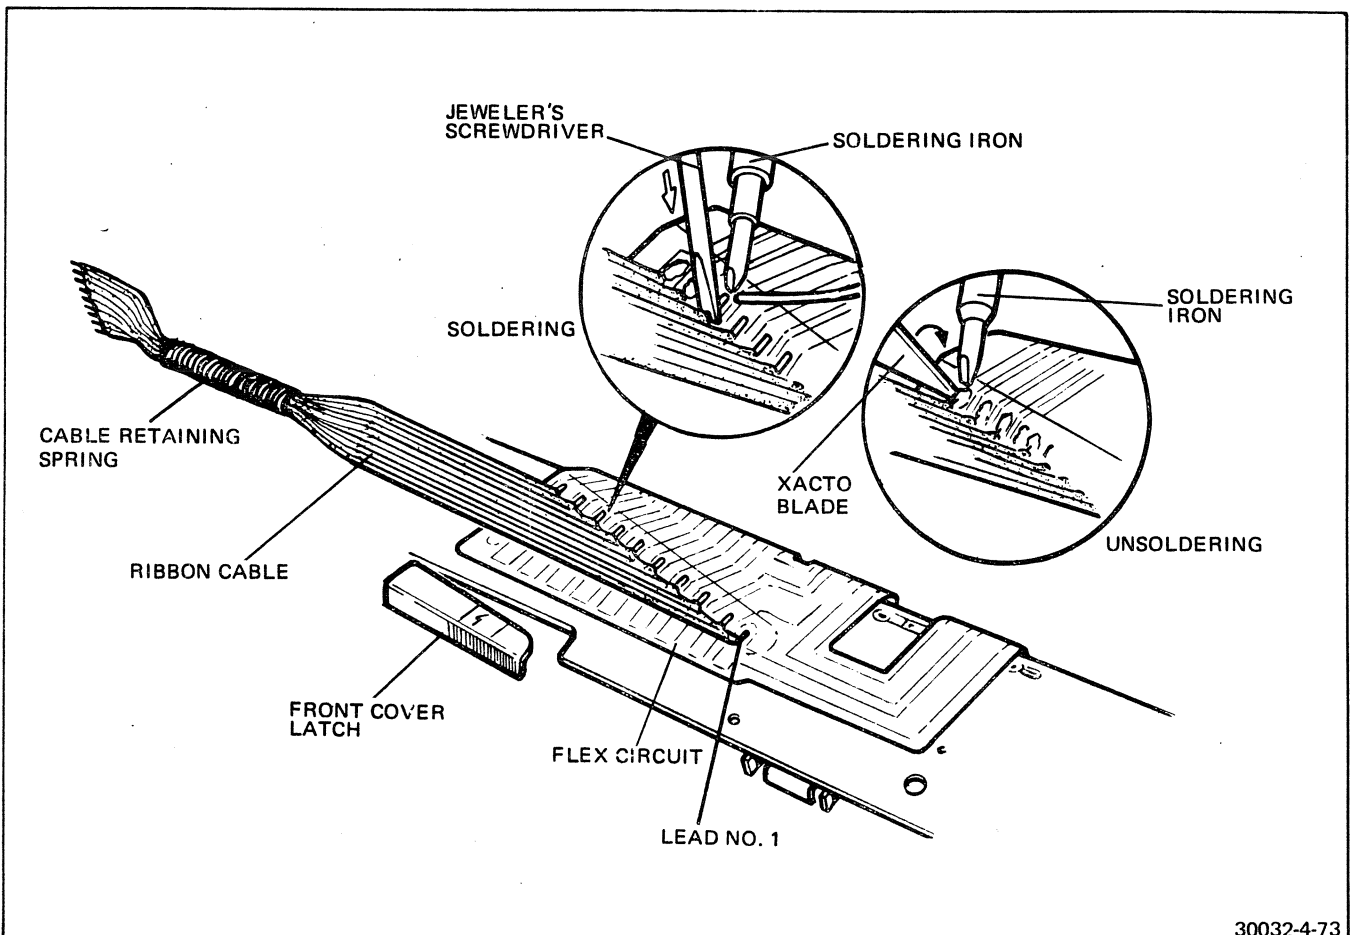

FIGURE 4-73 SOLDERING/UNSOLDERING RIBBON CABLE
8. To unsolder the flex circuit end of the multi-wire ribbon cable, refer to Figure 4-73. Starting with lead No. 1 of the cable, insert the point of a sharp blade (a pointed blade Xacto knife is recommended) under the wire. The sharpened edge of the blade must be held so that it makes physical contact with the junction point of the wire lead and the solder pad of the flex circuit. Do not insert the point of the blade beyond lead No. 1.